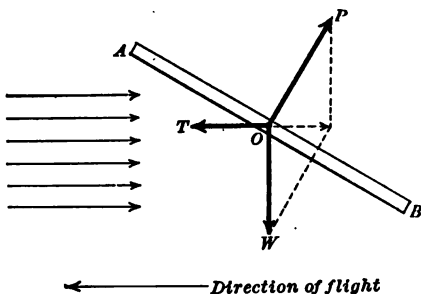

FIG. 125.— Forces acting on aeroplane.
**117. What supports an aëroplane?** An aëroplane of the monoplane type has one huge plane or sail, and a biplane two such planes, one above the other. These planes are tilted so that the front edge is a little higher than the rear edge. There is also a light but powerful gasolene engine which, by turning one or two large propellers, forces the aëroplane forward. How such a machine, which is heavier than air, is kept up, will be seen from figure 125. Let  $AB$  represent a tilted plane moving from right to left. The conditions are evidently the same as if the plane stood still and a strong wind was blowing, as shown by the arrows. The air striking against the under side of the plane  $AB$  is deflected and